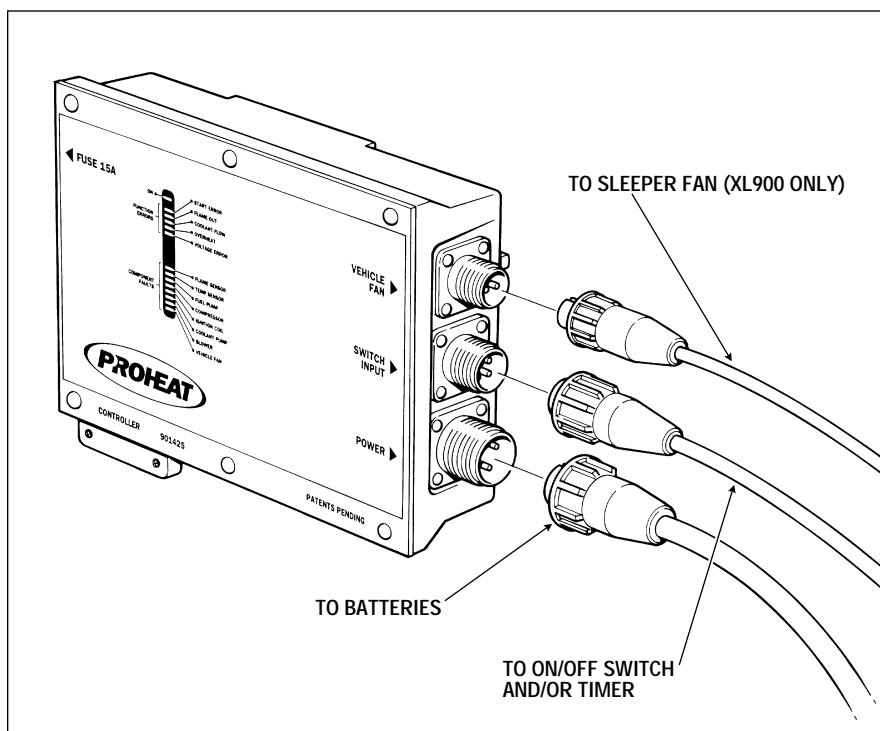

Figure 3-17 Major Electrical Connections
2. Strip outer wire jacket of harness back to expose the positive (red) and negative (black) leads. Strip the leads as shown and crimp the ring tongue terminals supplied to the wires. Connect the leads to the battery terminals. (See Figure 3-17)
3. Leave power harness disconnected. (See Figure 3-17)